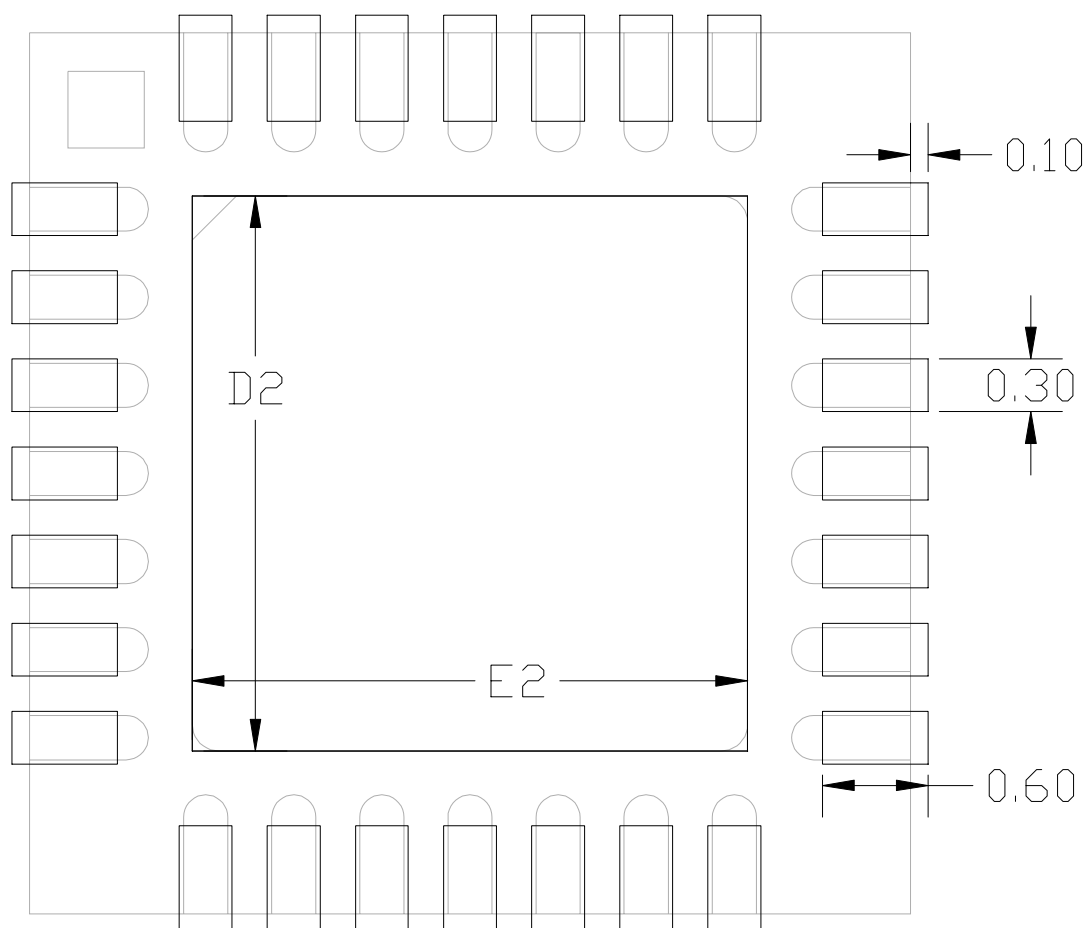
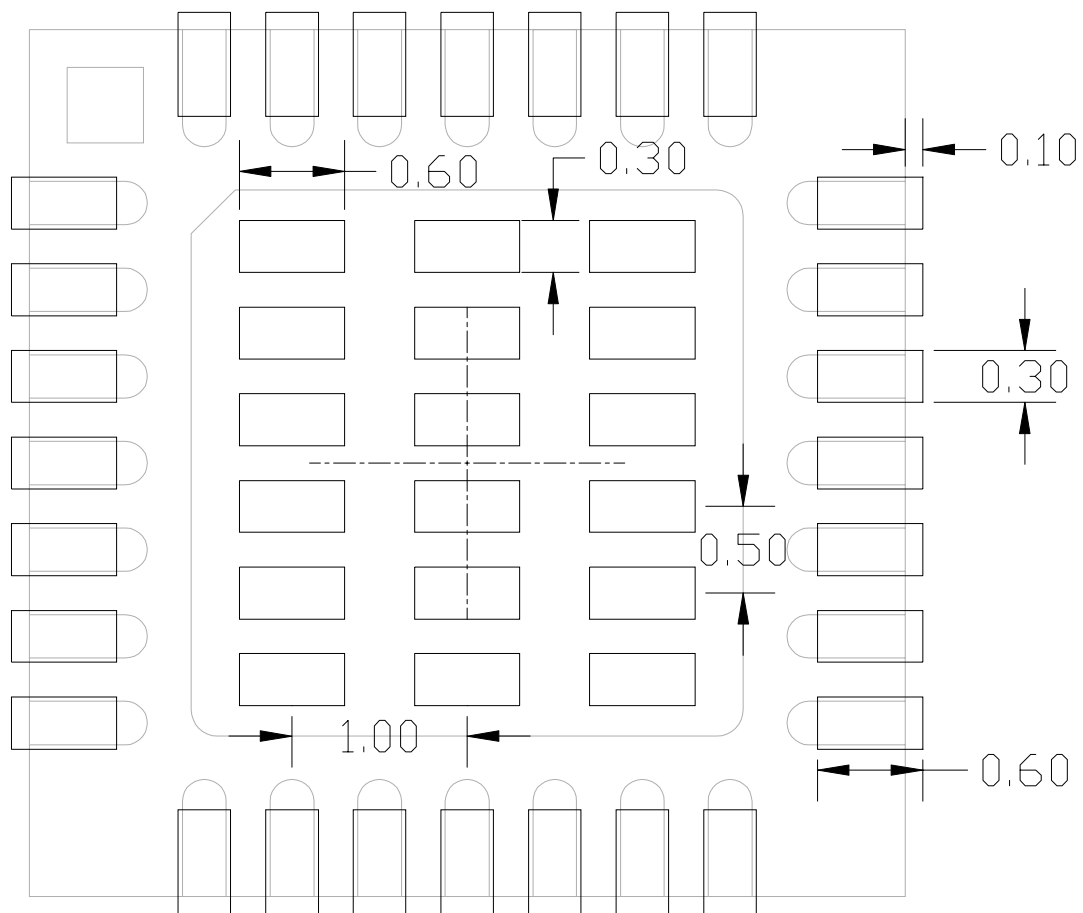

Figure 4. Typical QFN-28 Landing Diagram
Figure 5. Typical QFN-28 Solder Paste Diagram
- Updated package drawings in Figure 3, Figure 4, and Figure 5.